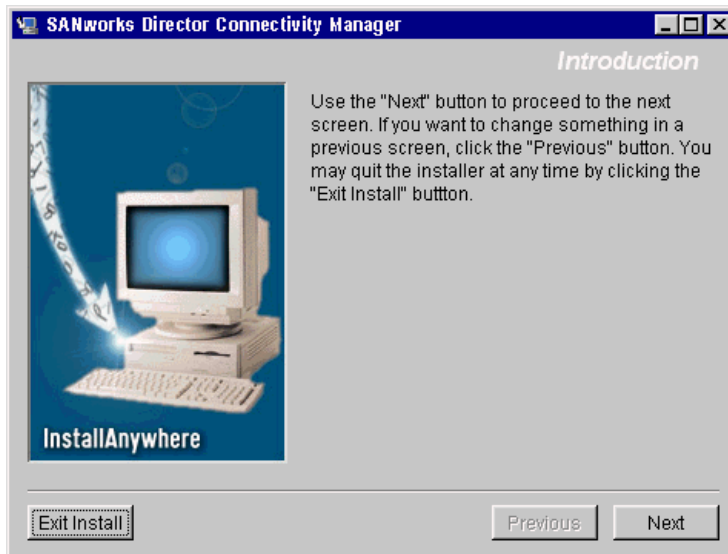

Figure 3-38: SANworks Director Connectivity Manager Dialog Box (Introduction)
6. Click OK. A series of message boxes appear as the InstallAnywhere third-party application prepares to install the SDCM application software, followed by the SANworks Director Connectivity Manager dialog box (Figure 3-38).